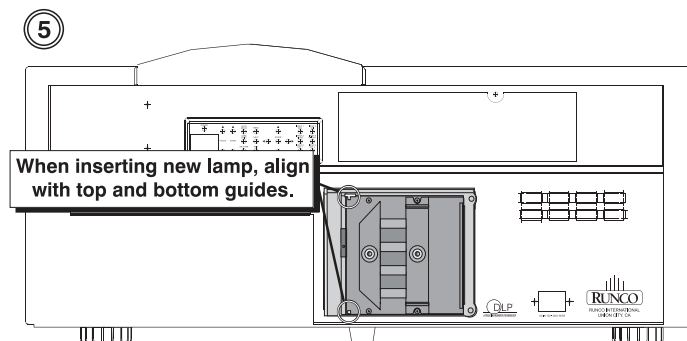

Figure 5-4. Installing A New Lamp
5. Align the new lamp with the top and bottom guides on the left side of the lamp compartment; see Figure 5-4. Slide the lamp all the way in. A slightly harder push may be required right at the end to make sure it is fully seated into the terminal block.